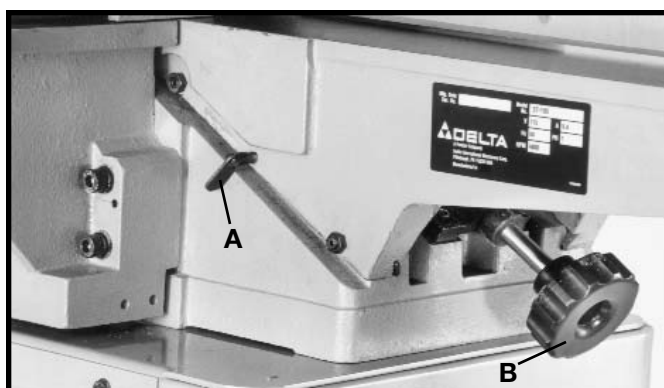

Fig. 38
2. To move the outfeed table up or down, loosen lock-screw (A) Fig. 38, and turn hand knob (B). When the outfeed table is exactly level with the knives at their highest point of revolution, tighten lock-screw (A).